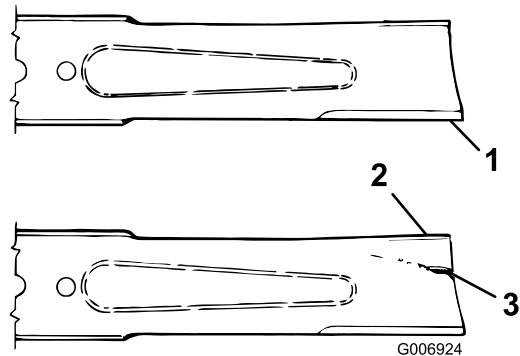

Figure 101
- Examine the cutting ends of the blade carefully, especially where the flat and curved parts of the blade meet (Figure 101).
- If wear is noticed (Figure 101), replace the blade; refer to Servicing the Blade Plane (page 69).
If the blade is allowed to wear, a slot will form between the sail and flat part of the blade (Figure 101). Eventually a piece of the blade may break off and be thrown from under the housing, possibly resulting in serious injury to yourself or bystanders.